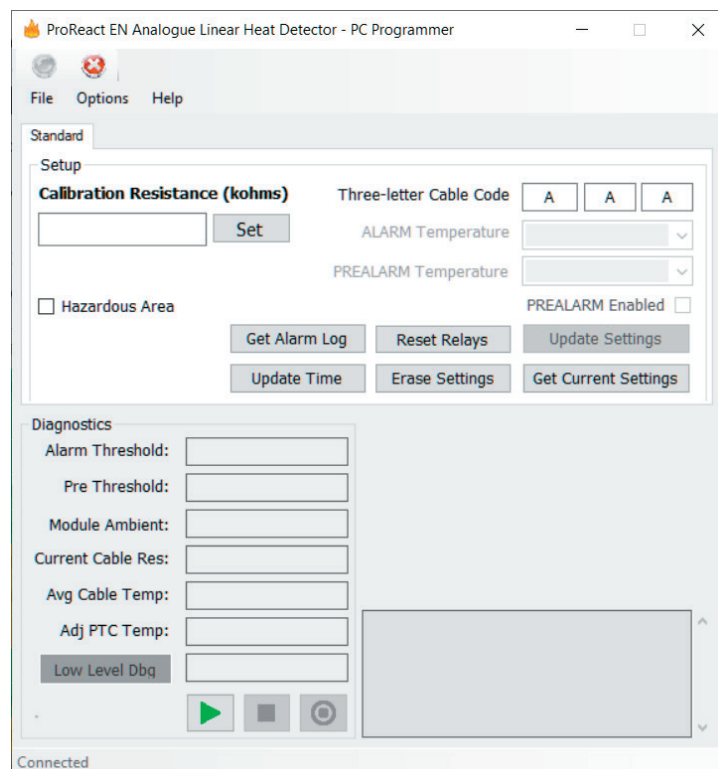

Figure 3. Screenshot of PC Programmer software once the control unit is connected
9. The programming software automatically locates and connects to the PACC unit. If a successful connection can be made, the programming software controls will be enabled (see Figure 3).